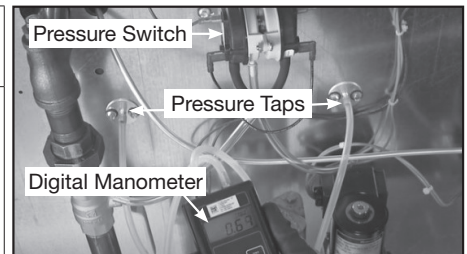

Fig. 1 Measuring the Pressure Drop
2. Determine Unit Airflow Configuration -Constant volume (CV), Variable Volume (VAV), Recirculating (RECIRC) Scan IOM QR code on document for further explanation of airflow configurations, if needed.
3. Check burner pressure differential (**Fig. 1**)
- a. Connect manometer to outer sensing probes (**Fig. 1**)